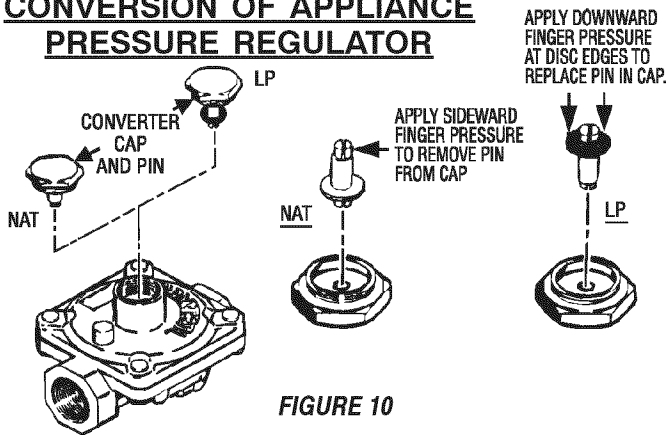

FIGURE 10
**B. INVERT CAP IN APPLIANCE PRESSURE REGULATOR (See figure 10)**
#### **B. INVERT CAP IN APPLIANCE PRESSURE REGULATOR.** (See figure 10).